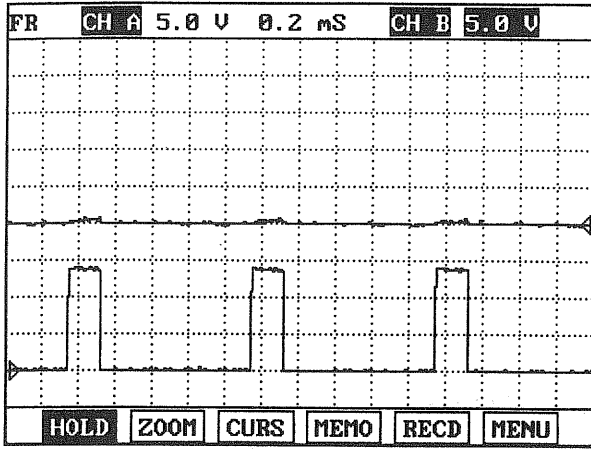

Fig.1
- Fig. 1) Waveform when variable swirl valve closed at idle. Terminal 1 is (+) and 2 is (-).